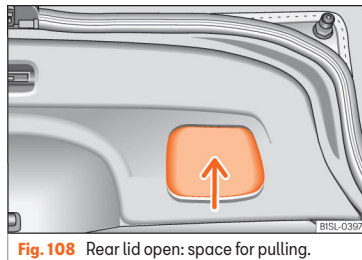

Fig. 108 Rear lid open: space for pulling.
- Grab the handgrip inside the rear lid »» **Fig. 108** [arrow].